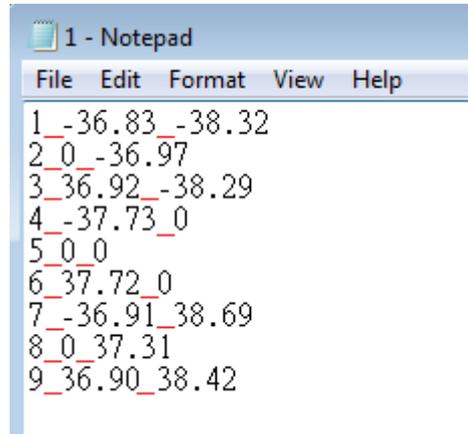

Fig. 1.1.49
- From File...** Users can create a \*.txt file as a correction file and using this function to import that file as the coordinates of X and Y, see Fig.1.1.49.